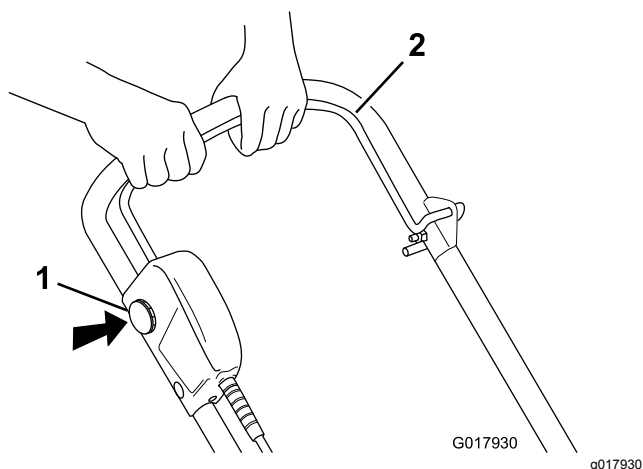

Figure 10
1. To start the motor, insert the interlock button (key), press and hold the interlock button (key), and squeeze the power control bar to the handle (Figure 10).